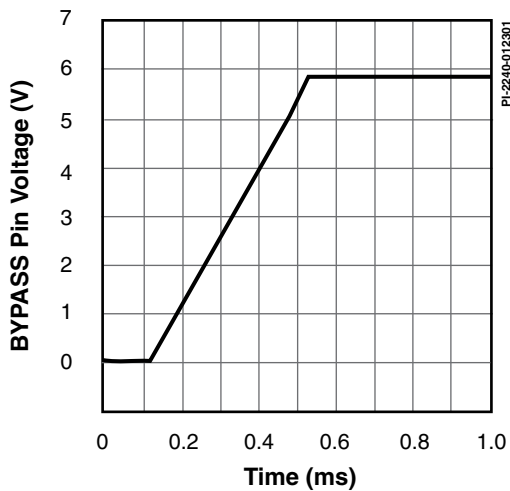

Figure 15. Bypass Pin Start-up Waveform.
- C. See Typical Performance Characteristics section Figure 15 for BYPASS pin start-up charging waveform.